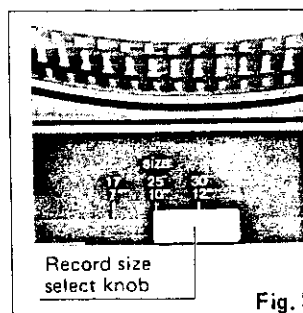

Fig. 5
2. Set the record size select knob to the diameter of the record (7" [17 cm], 10" [25 cm], or 12" [30 cm]) you wish to play. (See Fig. 5)